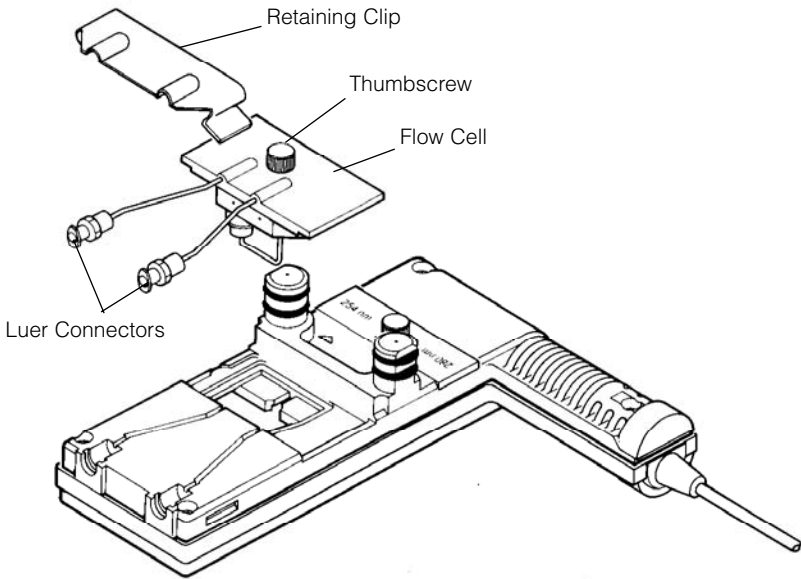

Fig. A-1. Flow cell replacement.
1. Remove the retaining clip from the bottom of the optics module and pull the luer connectors away from their holders as shown in Figure A-1.